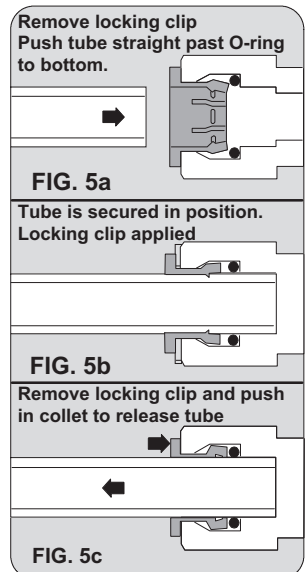

FIG. 5
6. Remove locking clip from the collet. Insert 1/4" drain tube into push-in connector to complete the installation. (See Fig. 5)